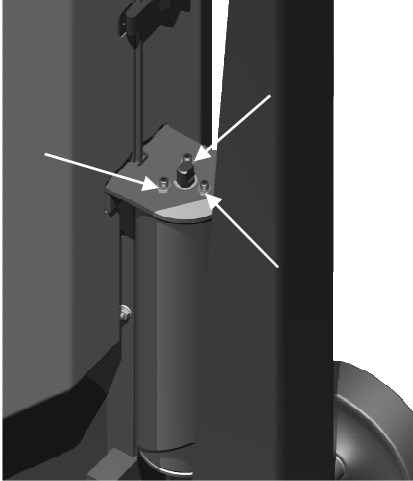

Figure 1
2. Loosen the three jam nuts shown in Figure 1 using a 9/16" wrench or socket. Then, back out the three set screws using a 3/16" allen wrench. The set screws should be completely removed from the handle. **WARNING!** All three set screws must be removed before proceeding. Failure to remove all three set screws prior to proceeding will result in the handle spring pressure releasing suddenly causing property damage and/or personal injury.